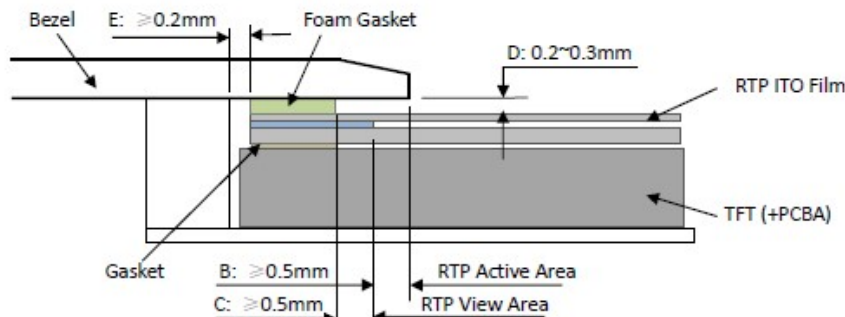

Figure 4
- It should bezel touching the RTP Active Area (A.A.) to prevent abnormal touch.It should left gab  $D=0.2\sim 0.3\text{mm}$  in between. (Figure 4)
- Outer bezel design should take care about the area outside the A.A. Those areas contain circuit wires which is having different thickness. Touching those areas could de-form the ITO film. As a result bezel the ITO film be damaged and shorten its lifetime. It is suggested to protect those areas with gasket (between the bezel and RTP).The suggested figures are  $B\geq 0.50\text{mm}$ ;  $C\geq 0.50\text{mm}$ . (Figure 4)
- The bezel side wall should keep space  $E= 0.2 \sim 0.3\text{mm}$  from the RTP. (Figure 4)
- 为避免面框直接压在动作区 (A. A.) 上造成误动作, 面框与电阻触摸屏 (RTP) 之间应留有一定的空隙  $D=0.2\sim 0.3\text{mm}$  之间. (附图 4)
- 设计面框时, 要注意用面框保护触摸屏四周的非保证操作区域, 因为布线区域在此处形成一台阶, 在此区域附近操作时 ITO Film 变形较大, 容易导致 ITO 损坏而降低寿命。为保护 RTP 和避免误操作, 在 RTP 与面框之间垫缓冲物 (Gasket), 我们建议设计面框应覆盖动作区的边缘, 面框边缘到 V. A. 区的距离  $B\geq 0.50\text{mm}$ ; 垫圈内边缘到 V. A. 区的距离  $C\geq 0.50\text{mm}$ . (附图 4)
- 在设计面框与 RTP 组装时, 应考虑到面框内侧与 RTP 外侧的间距  $E\geq 0.2\text{mm}$ . (附图 4)